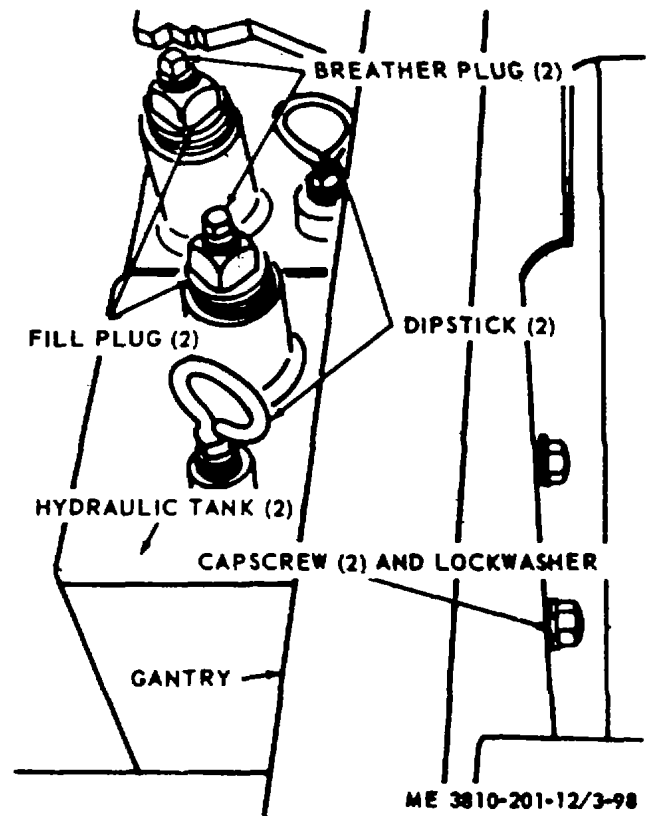

Figure 3-85. Hydraulic tank removal and installation.
(1) Close shutoff cocks in two supply lines beneath tank, tag and disconnect supply lines, then plug lines to prevent contamination of hydraulic system.
(2) Open tank by removing breather or filler plugs, position suitable container to receive fluid, then open shutoff cocks and drain hydraulic fluid from tank.
(3) Refer to figure 3-85 and remove hydraulic tank.